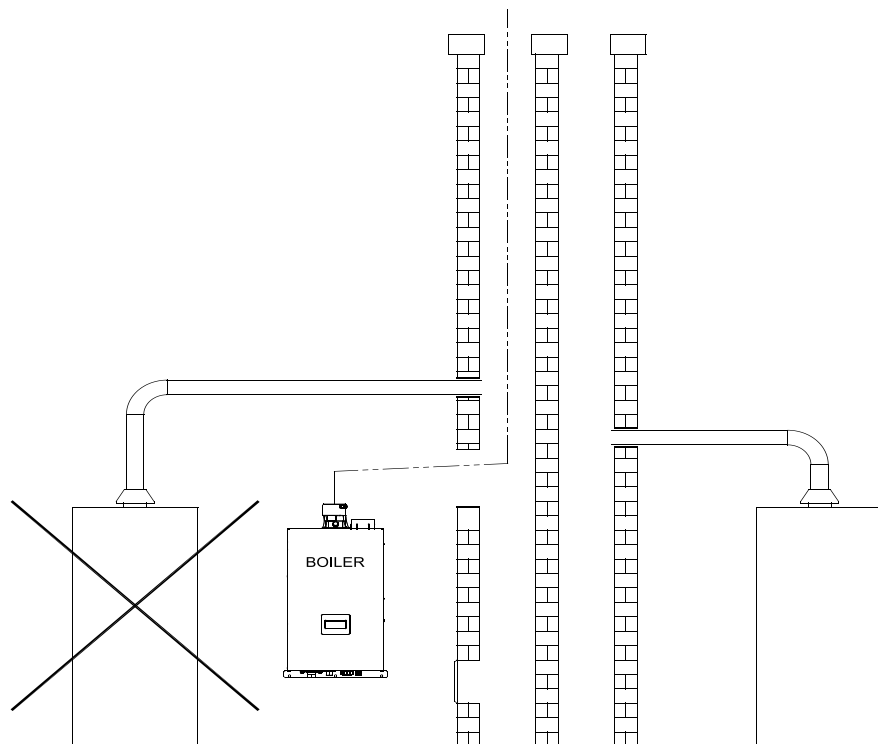

**Figure 7.24b: Flexible PP Masonry Chimney Chase Requirements**
- When a masonry chimney containing multiple flues is used as a chase, ALL flues must be abandoned (Figure 7.24b).
- All flex pipe must be installed vertically. Up to two offsets (four bends) may be made in the vertical run of flex pipe. Bends used to make these offsets may not exceed 45 degrees (Figure 7.24b).